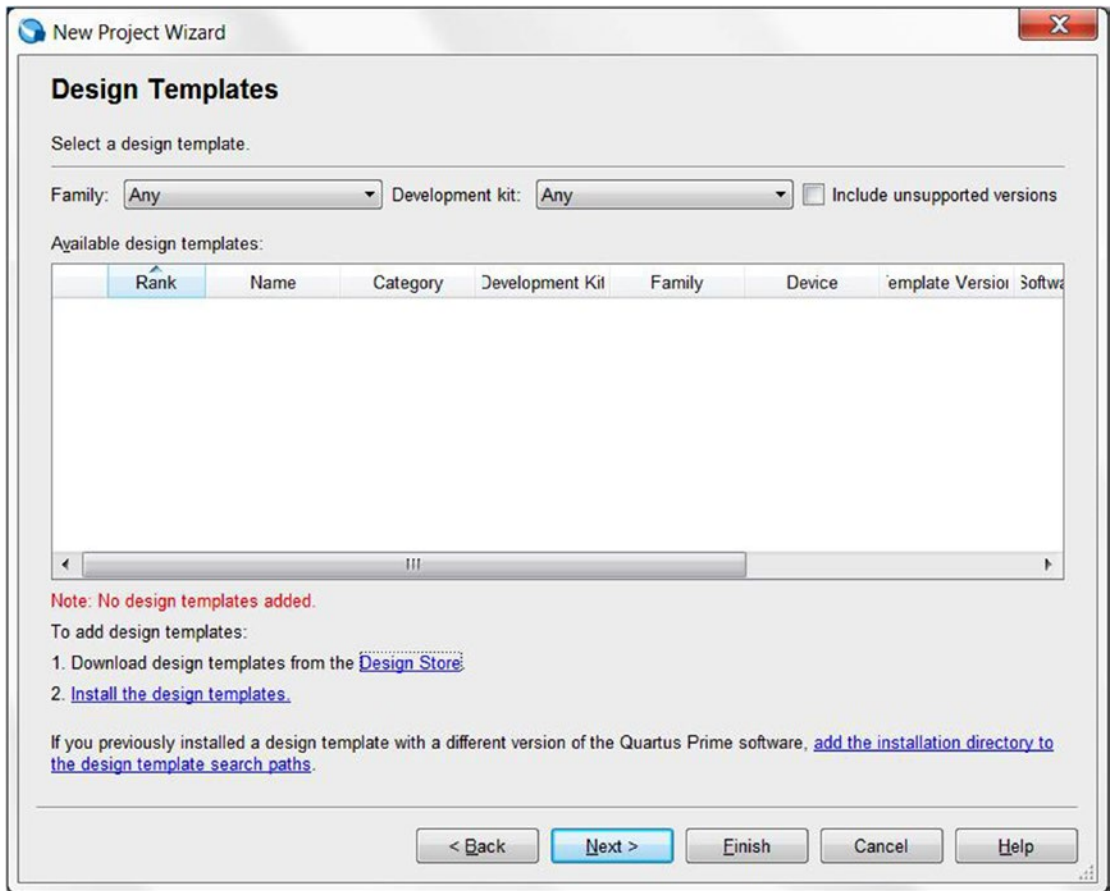

Figure 4-6. Quartus Prime New Project Wizard dialog box—Design Templates
6. If you downloaded the file `BeMicro_MAX10_top.par` from Chapter 3, then please go to step 12. Take the following steps to download the project template. Click **Design Store** (Figure 4-6) which will open an Internet browser and access the Altera Design Store. Please follow the steps 7-11 to download the BeMicro Max10 project template from the Altera Design Store. You can use the following project template link to download it directly or download the BeMicro Max10 project template and then go to step 12: